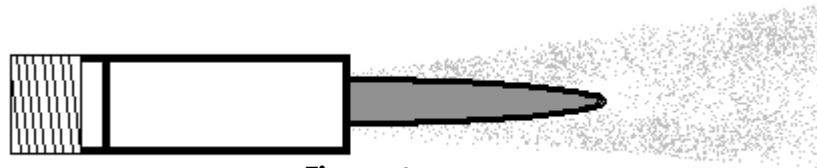

Figure 1
► When it comes to abrasive & air mixtures, more is not necessarily better. Optimum blasting efficiency takes place when a lean abrasive & air mixture is used. To correctly set the metering valve, begin with the valve fully closed and slowly increase the amount of abrasive entering the airstream. As you increase the abrasive flow, watch for a "blue flame" (Figure 1) at the exit of the nozzle. Faster cutting, reduced abrasive consumption and lower clean up costs, are benefits of the "blue flame".